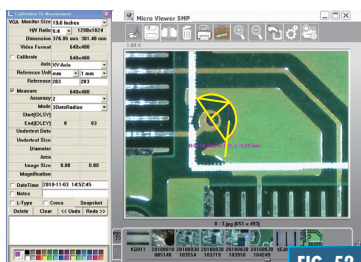

FIG. 52
7. Release the right button of the mouse, and the arc measurement will appear. The "R" means radius, "A" means angle, and the "L" means arc (Fig. 52).